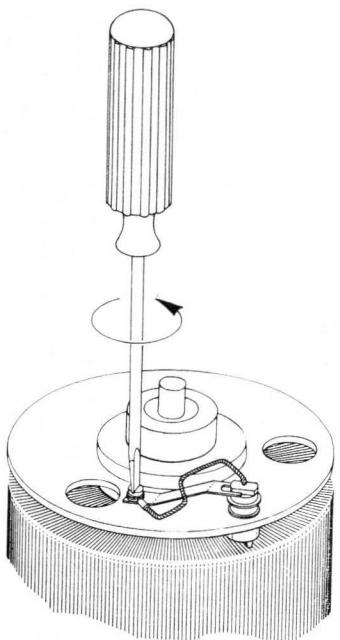

Fig. 7
- Replace the brush according to the Figs. 7 or 8.